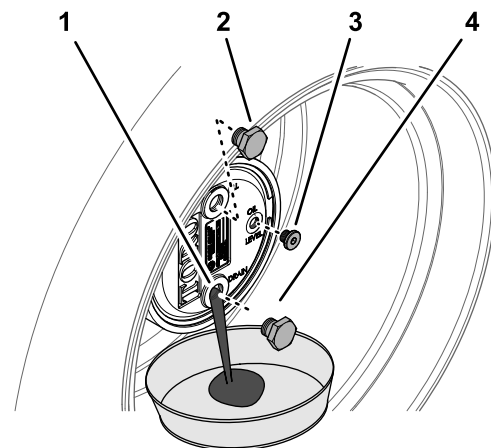

Figure 128
2. Remove the fill plug at the 12 o'clock position and the check plug at the 3 o'clock position (Figure 128).
- Place a drain pan under the planetary hub, remove the drain plug at the 6 o'clock position, and allow the oil to fully drain (Figure 128).
- Install the drain plug into the drain hole of the planetary housing (Figure 128).